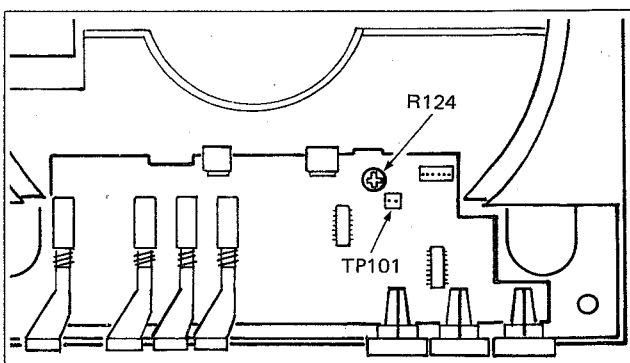

Fig. 12
2. With the tonearm at UP position, adjust it with VR(R124) shown in Fig. 12. The output voltage should be $3.7 \pm 0.2V$ between (1) and (2) of test point (TP101).